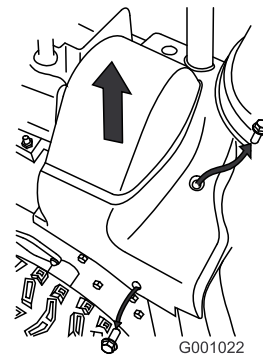

Figure 42
2. Lift up the right side of the belt cover (Figure 42).